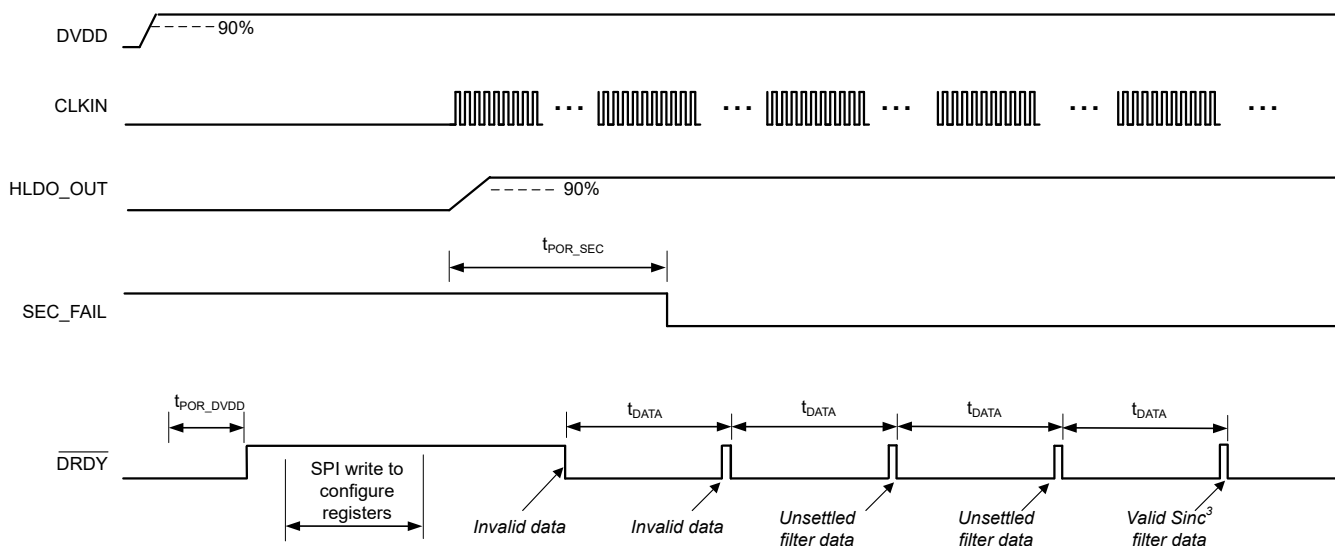

Figure 8-18. Start-Up Behavior at Power-Up and Settling Times, OSR = 1024
- The high-to-low transition of $\overline{\text{DRDY}}$ indicates that new conversion data are available. As given in Figure 8-18, ADC data are only valid if the SEC_FAIL reads 0b during the conversion period. The first two conversion results shown in Figure 8-18, represent invalid data.
- When the ADC generates valid data, the digital filter must settle, as described in the SINC³ and SINC³ + SINC¹ Filter section. Two subsequent conversion results illustrated in Figure 8-18 are unsettled (assuming OSR equals 1024), and the last conversion result shown provides valid and settled data.
In Figure 8-18, $t_{\text{POR_SEC}}$ is the time from enabling the DC/DC converter to the first falling edge of the SEC_FAIL bit, which indicates that the secondary power supply at the HLDO_OUT pin is stable. $t_{\text{POR_DVDD}}$ is the time from DVDD supply at 90% to $\overline{\text{DRDY}}$ first rising edge.